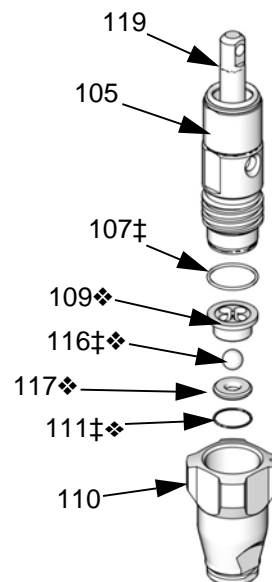

FIG. 11: Intake housing assembly
4. Remove the intake housing (110). See FIG. 11.
5. Clean or replace the ball guide (109), ball (116), seat (117), and o-ring (111).
6. Install the o-ring (111‡), seat (117), intake ball (116‡), and ball guide (109) in the intake housing (110).
7. Screw the intake housing (110) onto the cylinder (105). Torque to 70-80 ft-lb (95-108 N•m).